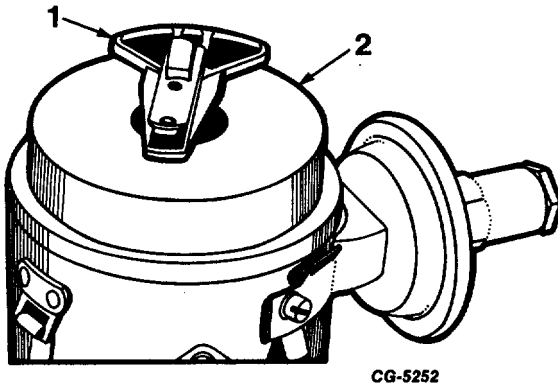

Fig. 11 Distributor Rotor and dielectric Shield (Dust Cover).
1. Remove rotor and dielectric shield ("dust cover") (Figure 11)